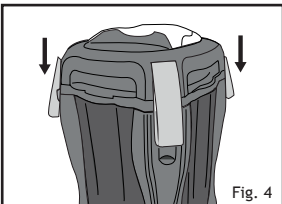

Fig. 4
9. Latch and secure the clips. The filter unit is now ready to be installed. Fig 4